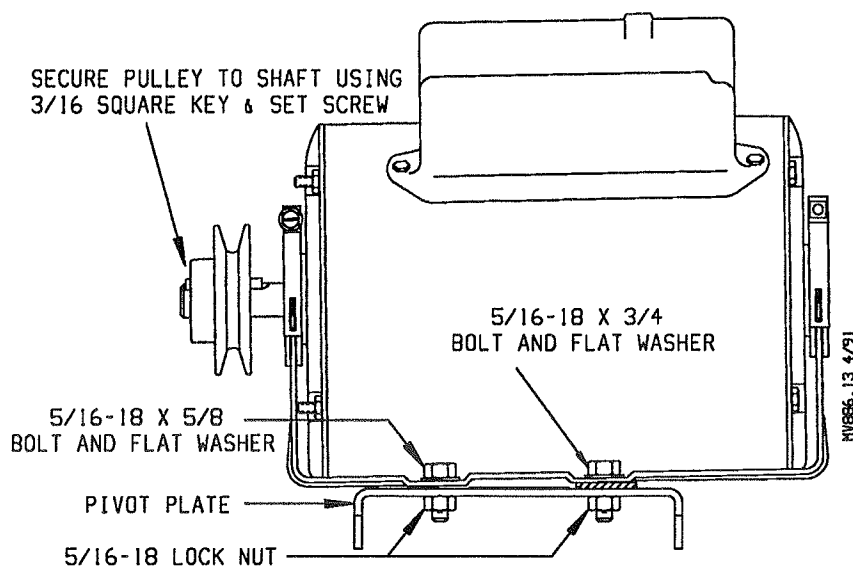

Figure 8.
☆ 20. Set the motor onto the pivot plate removed in step 13. Position the motor over the mounting holes located in the pivot plate as far from the pivot hole as possible. Secure motor with two (2) 5/16-18 x 5/8 bolts, (2) 5/16-18 x 3/4 bolts, flat washers, and locknuts. See Figure 8.
☆ 23. Slip V-belt first over small diameter pulley then rotate V-belt over flange of large diameter pulley until seated properly in pulley groove. Align small pulley to larger pulley with a carpenter's square or straight edge. Torque sets screws to 85 lb.-in. (9.6 Nm) on small diameter pulley. See Figure 8.